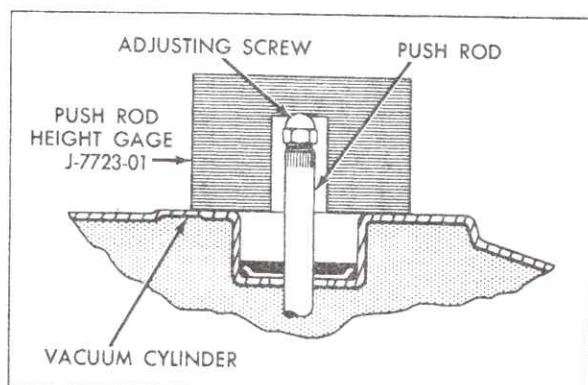

Fig. 5-25 Checking Bendix Push Rod Height
18. Place Push Rod Height Gage, J-7723-01, over push rod with legs of Gage resting on front shell, Fig. 5-25. Top of screw should touch gage.